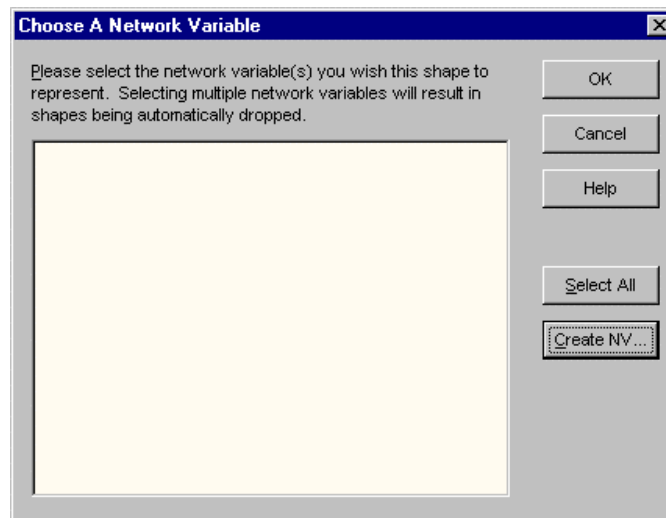

Figure 9-6 – Dropping a Network Variable Shape
12. Drop an Input Network Variable shape from the LonMaker Basic Shapes Stencil onto the Web Server functional block to open the dialog shown in figure 9-6.